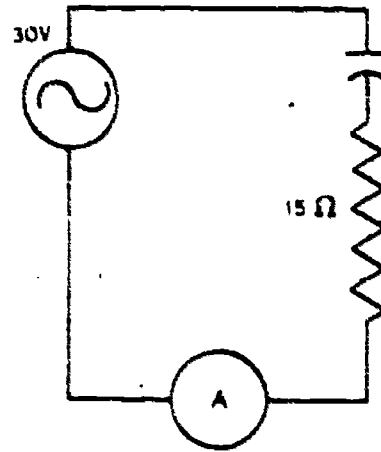

Figure 6
16. Will the current flow in this (figure 6) be more than, less than, or equal to, the current flow in problem 15? \_\_\_\_\_